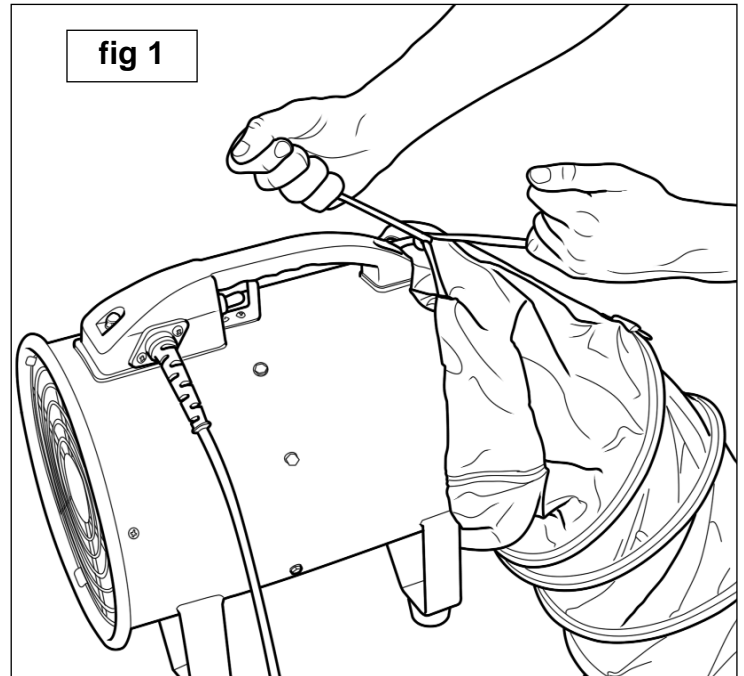

fig 1
- 3.1.2 To extract air from an area attach the ducting (fig 1) to the inlet. Place the other end of the ducting into the desired area.